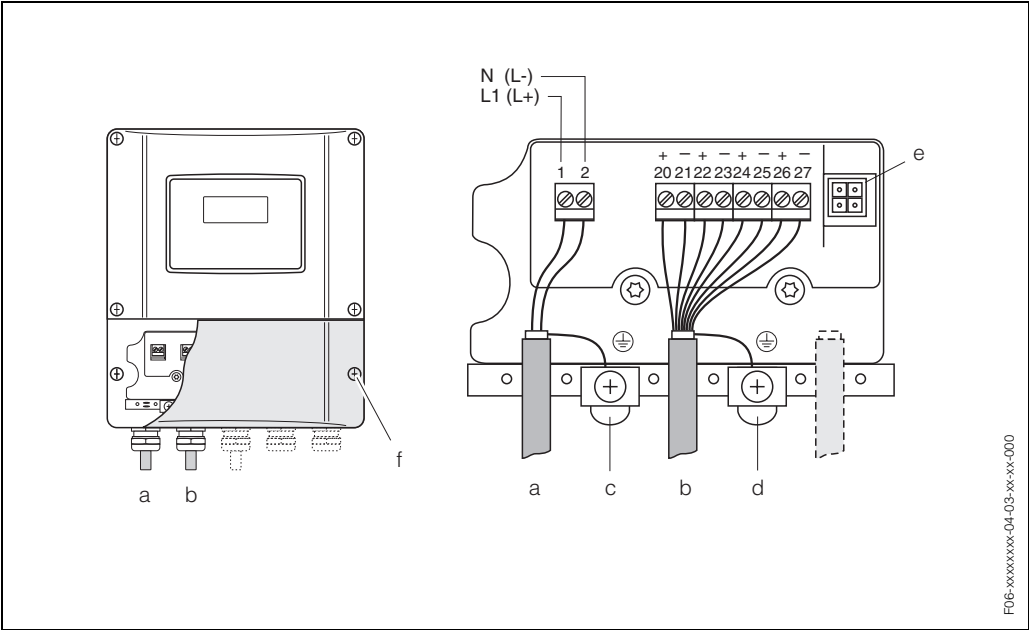

Fig. 30: Connecting the transmitter (wall-mount housing). Cable cross-section: max. 2.5 mm²
- Wiring diagram (wall-mount housing) → Fig. 30